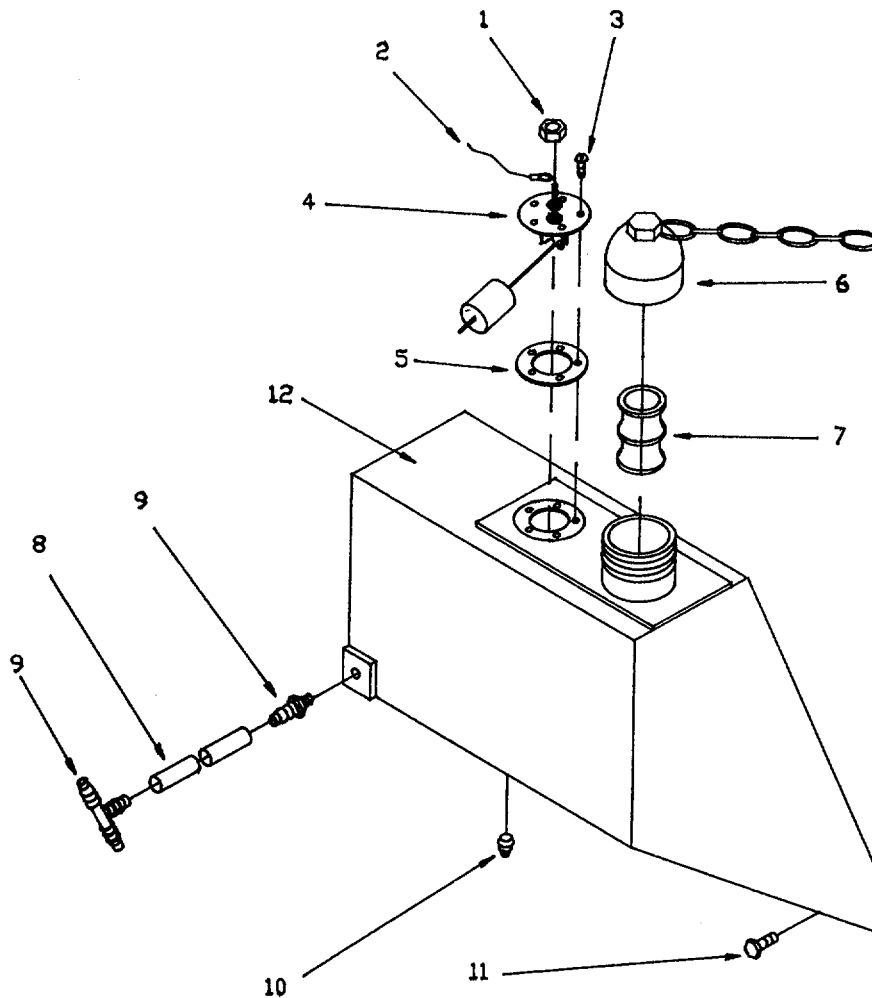

Figure 4-9. Primary Fuel Tank.
- (1) Remove fuel cap (6, Figure 4-9).
- (2) Remove filter element (7).
- (3) Clean by blowing out any debris.
- (4) Replace filter element if damaged.